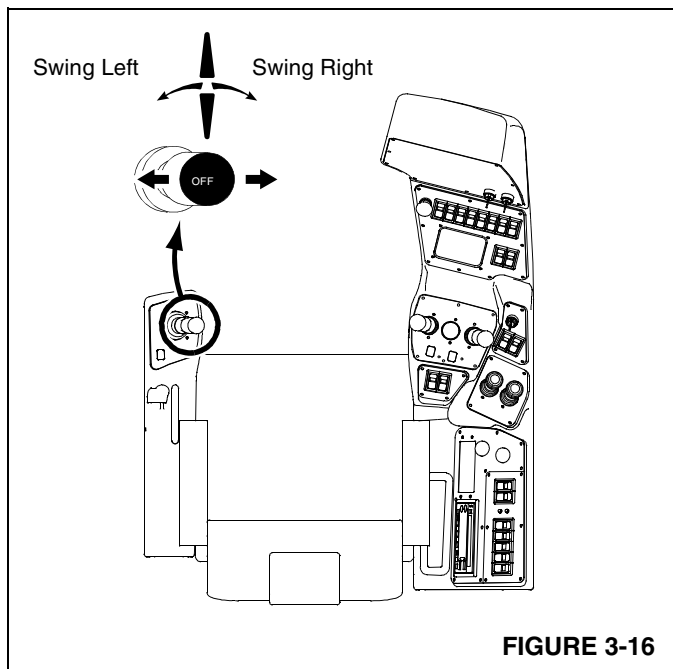

FIGURE 3-16
See Figure 3-16 for swing operation.
3. See Figure 3-16. Push swing handle to LEFT from off to SWING LEFT or pull handle to RIGHT from off to SWING RIGHT.